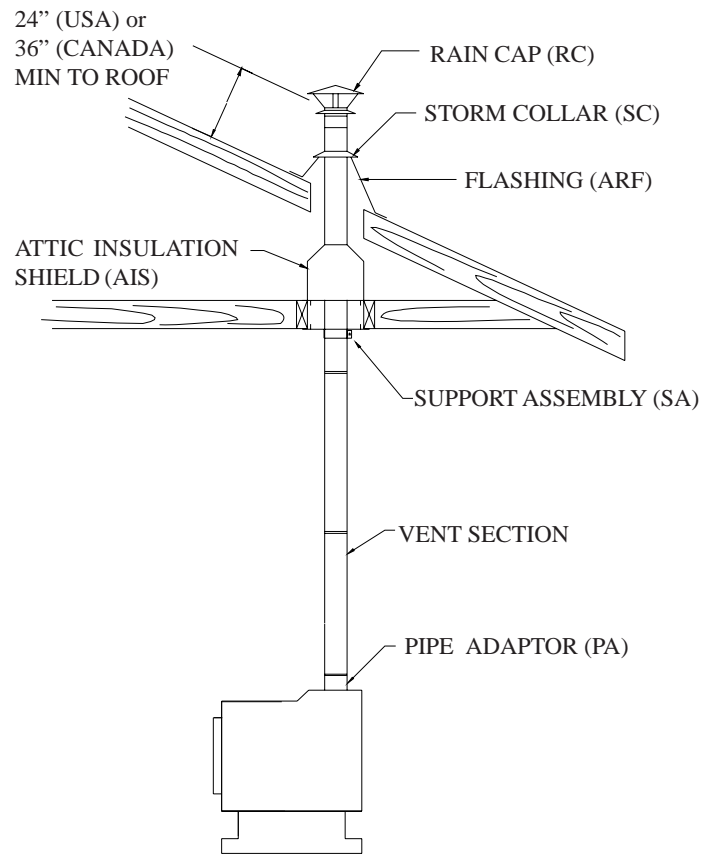

FIGURE 3
7. The rain cap of a vertical (through the roof) installation must be at least 600mm (24") above the roof line when installed in the US and 900mm (36") when installed in Canada. See Figure 3.
1.8 Alternatively, a SUPPORT ASSEMBLY (SA) may be used in place of the BCS. The SUPPORT ASSEMBLY fits into the ceiling opening from below and is fastened to joists with 4 x 1.5" spiral nails or screws (see Figure 3).
1.17 Set the RAIN CAP onto the top VENT section and twist lock it to the top VENT section (see Figure 3).